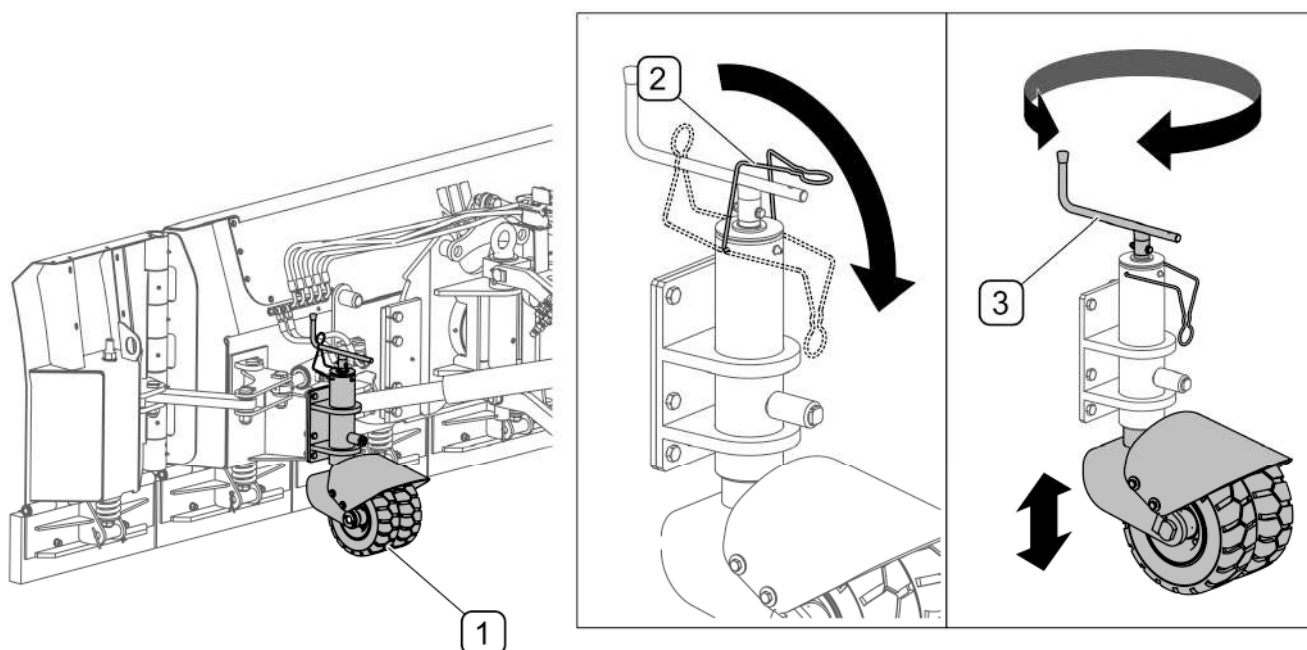

FIG. 4.7 Working height adjustment in scraper – blade with wheels (option)
(1) - wheels; (2) - handle lock; (3) - handle
In order to adjust working height (FIG. 4.7) of the scraper – blade with wheels (option), slide wheel (1) and its housing by turning handle (3). The handle is protected by a lock (4). After